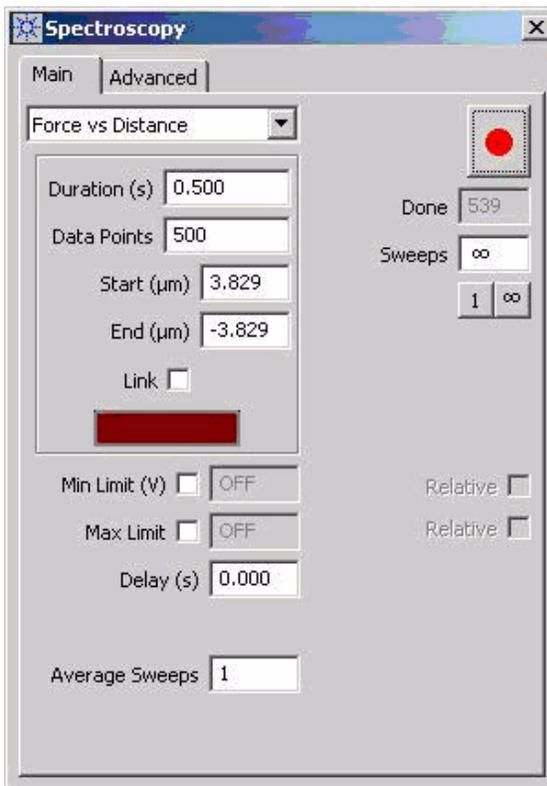

Figure 107 Spectroscopy window Main tab
- 2 Choose **Controls > Spectroscopy** to open the **Spectroscopy window** (Figure 107).